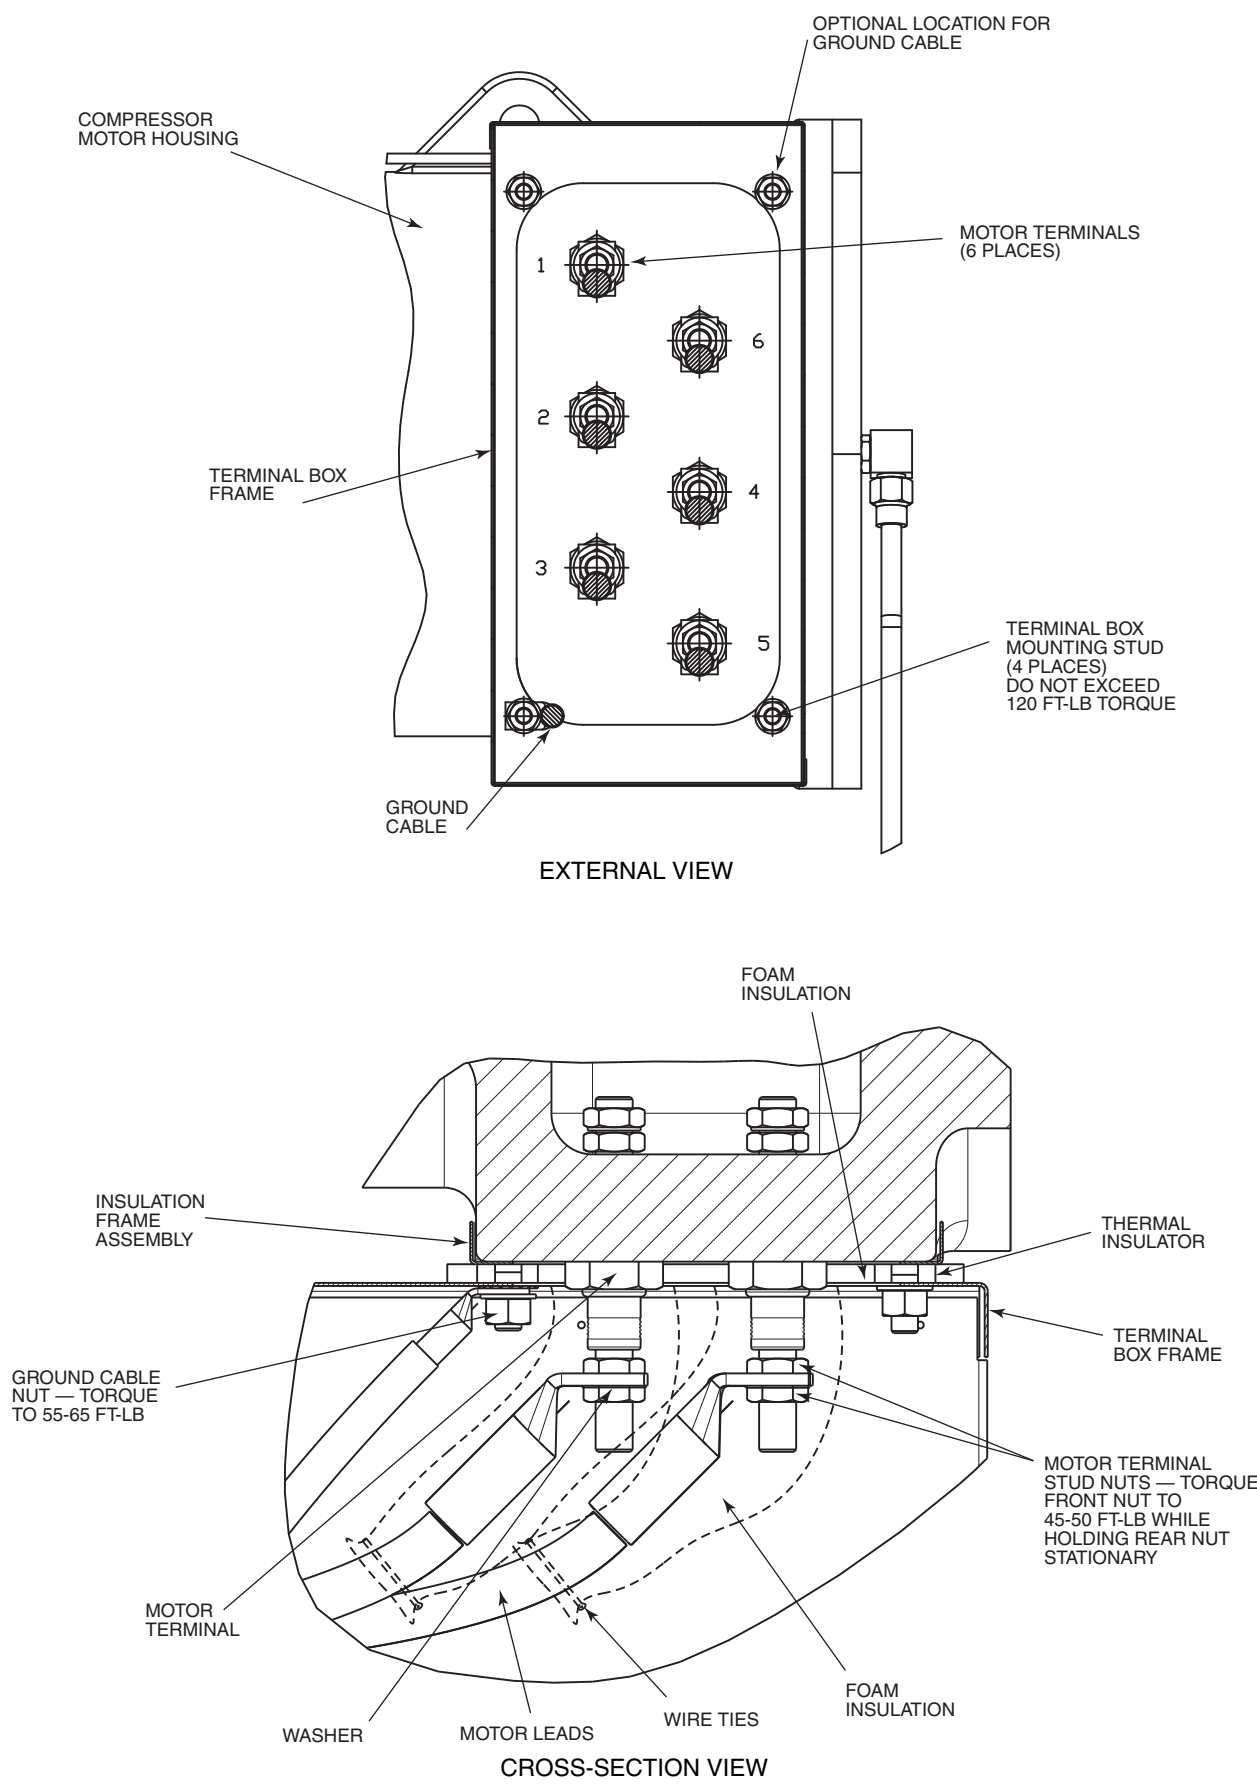

Fig. 16 — Compressor Motor Terminals (Typical)
4. Label and disconnect the motor leads from the motor or VFD terminals (Fig. 16 and 17). Note the position of the motor terminal cable lugs so they can be reinstalled with sufficient clearance away from the surrounding structure. When reinstalling the VFD, assemble the back panel, floor, and tray of the motor terminal box transition piece prior to installing the motor leads.
1. Install terminal box frame mounting studs into tapped holes using short threaded end. Do not exceed 120 ft-lb (163 N-m). See Fig. 16.
4. There may be 1 or 2 motor power cables per terminal identified as T1, T2, and T3. Position motor end lugs on terminal studs with Belleville washer located against the front terminal lug with the convex side facing toward the front terminal nut. Clinch the two cables together with wire ties before tightening terminal nuts. Install front terminal nut finger tight. Hold rear terminal nut stationary while tightening front terminal nut to 45 to 50 ft-lb (61 to 68 N-m). See Fig. 16.
Insulate Motor Terminals and Lead Wire Ends — Locate heat shrink tubing (RCD P/N LF33MM114) over power connections so that they are completely covered and tubing is against motor housing. Shrink into position. Slide foam tubing (3 in. inner diameter closed cell vinyl, neoprene, or nitrile foam) partway over the heat shrink tubing. Apply adhesive for closed-cell foam insulation to motor-side end of the foam tubing, and push tubing the rest of the way over the terminal and against the sheet insulation on the motor side. Secure the opposite end of the foam tubing with a wire tie as shown in Fig. 16.
6. Orient PE/ground lug as shown in Fig. 16. Assemble internal/external tooth lock washer between the terminal box frame and the PE/ground cable. Torque PE/ground lug nut to 55 to 65 ft-lb (75 to 89 N-m).